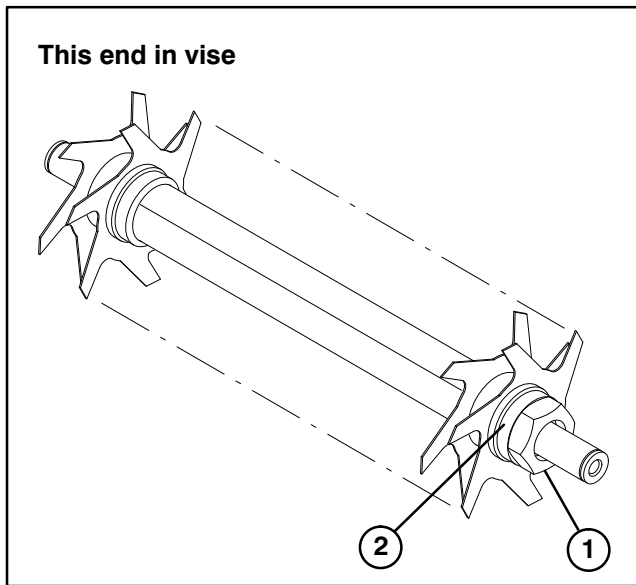

Figure 11
REMOVING VERTICUTTING BLADES FROM SHAFT (Fig. 11)
INSTALL VERTICUTTING BLADES (Fig. 11)
5. Install cupped end spacer to shaft (flat end outward) (Fig. 11).